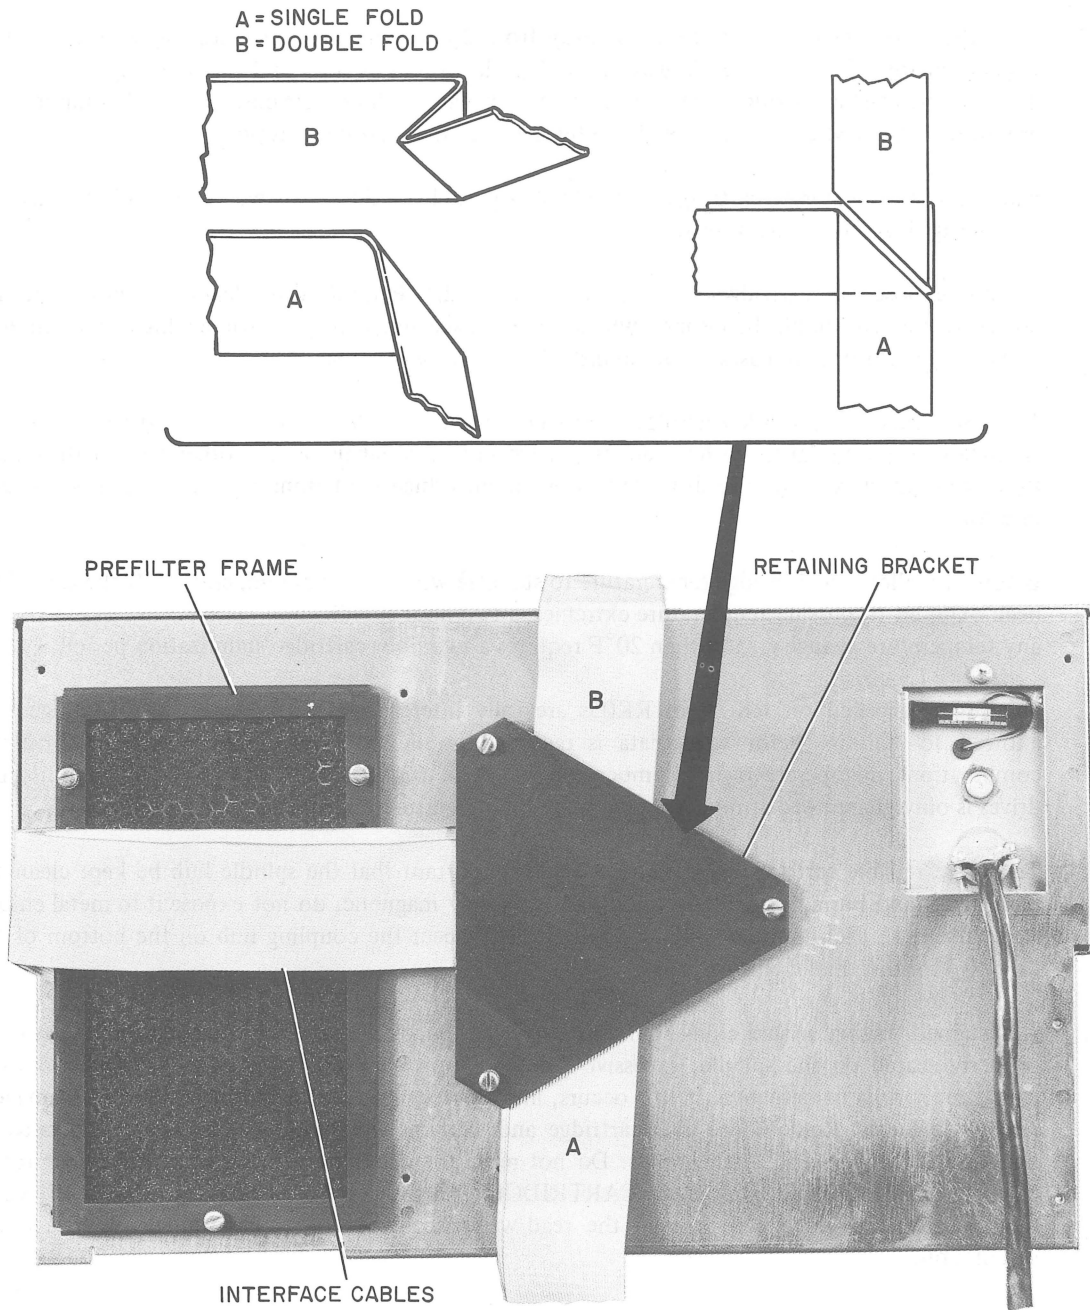

Figure 2-4 RK8/E Interface Cable Installation (Preferred Method)
- Route the interface cables through the prefilter opening and reinstall the filter and frame so that the cables fit into the slot on the side of the frame (Figure 2-4).
- Route the cables over the prefilter and fold them as indicated in Figure 2-4.